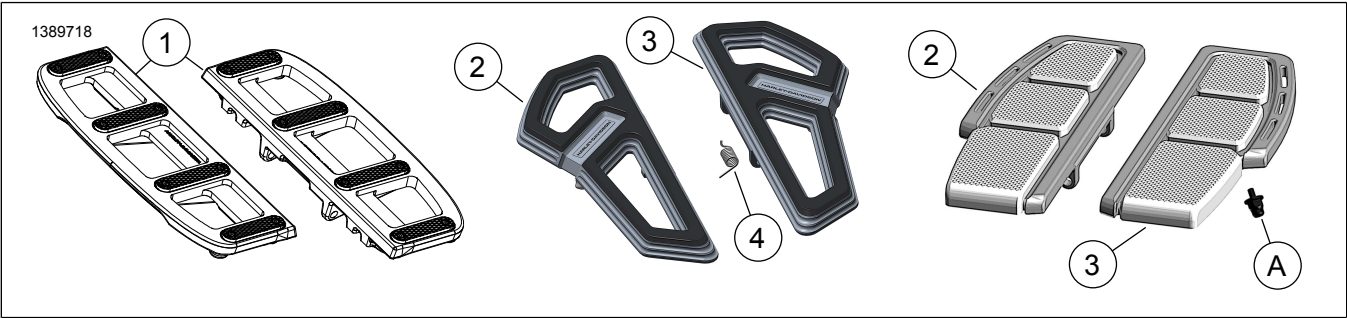

Figure 1. Kit Contents: Rider Footboard Components
- b. **Kits 50501938, 50501939, 50501945:** See Figure 1. Insert short end of **new** torsion spring (4) into forward most hole in footboard.
- c. While holding torsion spring (2) in place, install footboard and torsion spring onto mounting bracket.
- d. Install clevis pin (1).
- e. Install E-clip (3).
- f. Rotate footboard up and push torsion spring (2) into slot on mounting bracket.
2. Check that footboard pivots freely on clevis pin (1).